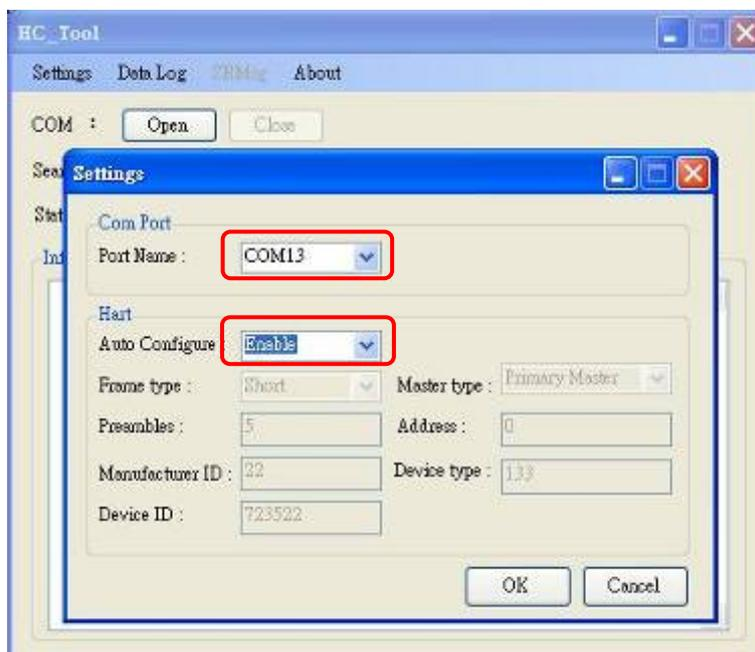

Figure 3-3: Set “Com Port” and “HART” Parameters
Step3: Set the “Port Name” and “Auto Configure” parameters like Figure 3-3.